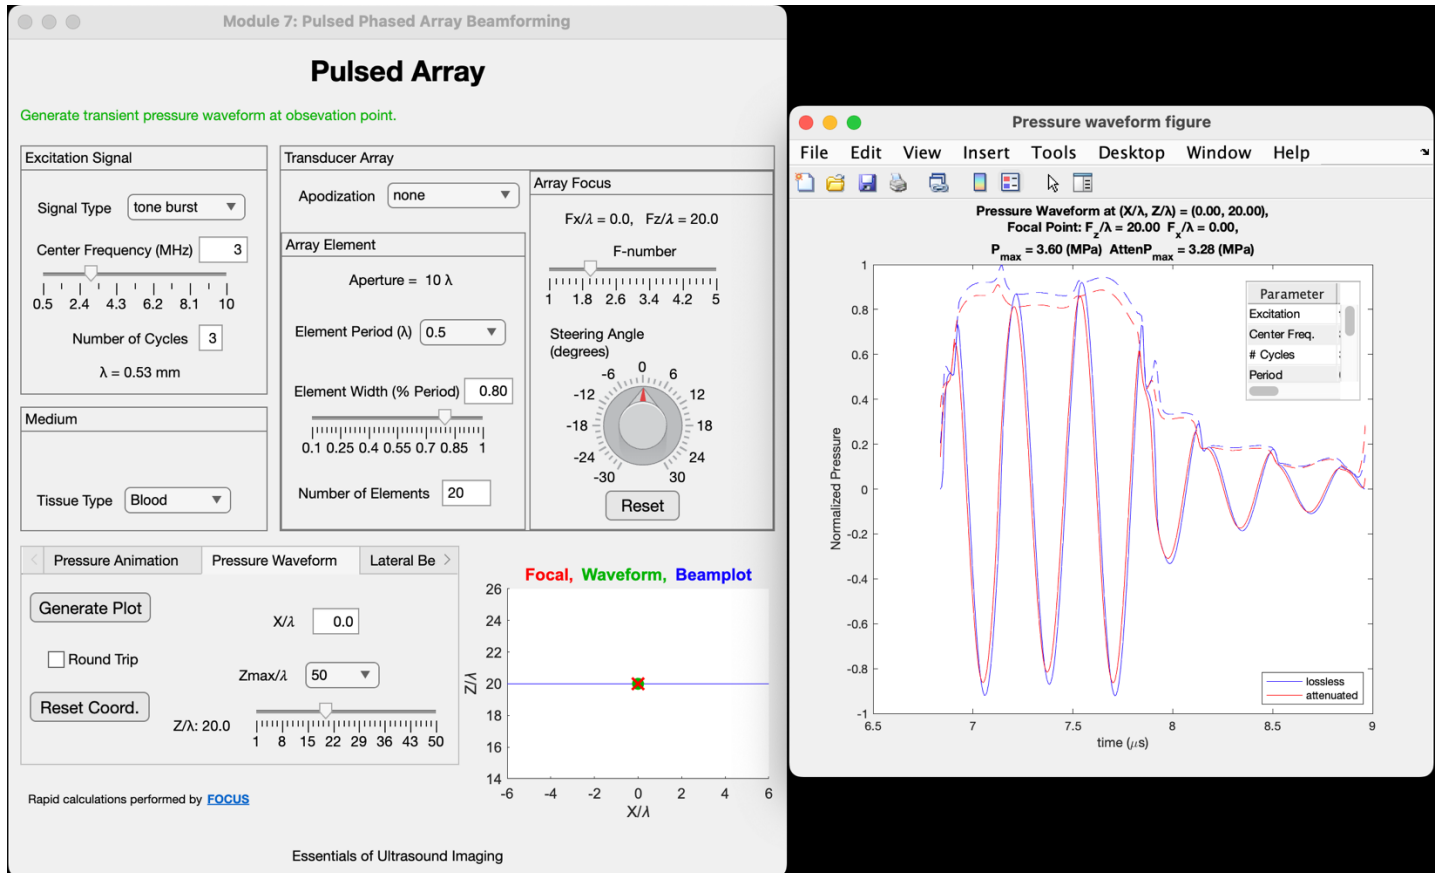

Figure 44: Pulsed Array Simulator GUI: Pressure Waveform Example
- Under the **Pressure Waveform** tab, the default location is on the propagation axis at the focal distance. In this case, the location is set for  $X/\lambda = 0$  and  $z = F$ , as indicated graphically in the plot at the lower right corner of the GUI. The  $Z/\lambda$  slider allows waveforms to be visualized at other distances; the green waveform dot in the plot tracks the selected  $Z/\lambda$  slider position. Similarly, off-axis positions are controlled by the  $X/\lambda$  edit window—it is recommended to choose small values close to the propagation axis, as the beam is narrow; the green dot tracks this position accordingly. Round-trip waveforms can be displayed by checking the round-trip box. To display a waveform for the default conditions of this walkthrough, click the Generate Plot button. Two waveforms are displayed in the popup window: one for a lossless medium and the other for a selected absorbing medium. In addition, the corresponding envelopes and settings for the plot are also shown in the title and scrollable plot inset. See Figure 44.